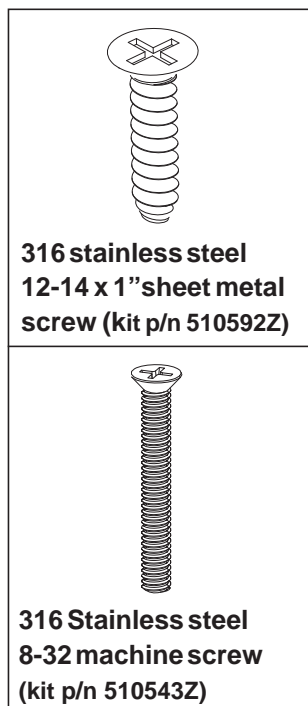

Figure 1
- Install a gasket under and on top of the vinyl liner. Align the gasket and face ring screw holes. Secure the face ring on the top gasket with the eight (8) 316 12-14 x 1" sheet metal self-tapping screws (provided), see Fig. 1. Using a No. 2 Philips head screwdriver, tighten each retaining screw to a **torque value of 10.00 (minimum) to 15.0 (maximum) in-lbs** to secure the face ring and gaskets on the sump. DO NOT OVER TIGHTEN THE SCREWS. DO NOT ASSEMBLE WITH POWER TOOLS.
⚠ WARNING ONLY USE THE 316 STAINLESS STEEL 8-32 MACHINE SCREWS (SEE FIG. 1) PROVIDED. SUBSTITUTE SCREWS SUCH AS MASONRY SCREWS, SHEET ROCK SCREWS OR OTHER TYPES OF SCREWS SHOULD NEVER BE USED, WILL CAUSE THE COVER TO COME LOOSE AND COULD RESULT IN LIMB OR BODY ENTRAPMENT, HAIR ENTANGLEMENT OR EVISCERATION/DISEMBOWELMENT.
- Remove the eight (8) face ring screws securing the face ring. Discard the face ring and screws.
- Install the new face ring. Secure with the eight (8) sheet metal self-tapping screws (provided), see Fig. 1. Using a No. 2 Philips head screwdriver, tighten each retaining screw to a **torque value of 10.00 (minimum) to 15.0 (maximum) in-lbs** to secure the face ring. DO NOT OVER TIGHTEN THE SCREWS. DO NOT ASSEMBLE WITH POWER TOOLS.